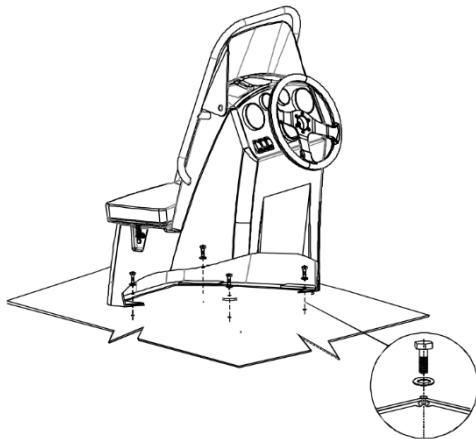

Fig. 7. Installation of steering console CL-11.
- Fix steering console to the deck by means of bolts M8\*25 and toothed lock washer (see Fig.7).